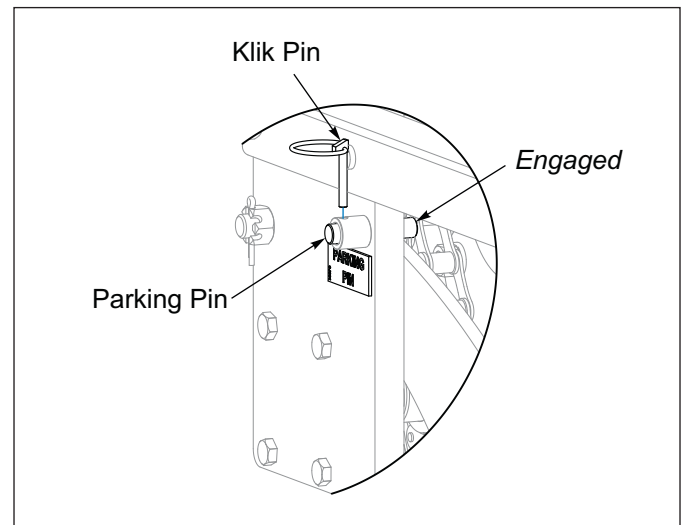

Figure 2-5: Parking Pin Engaged
5. Be sure Parking Pin is locking Rear Roller down and raise the Seeder. **See Figure 2-5.**